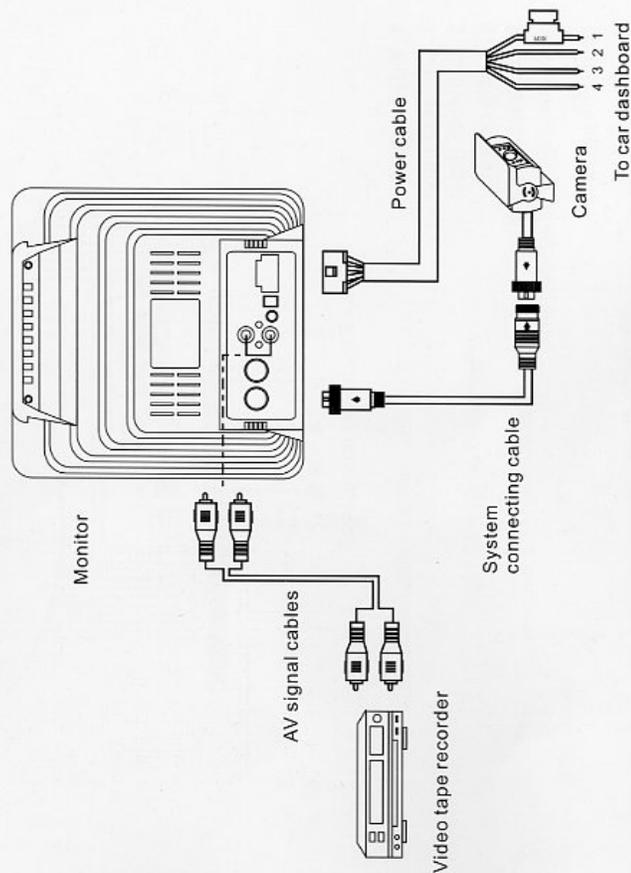

Fig.4 System connection
6. See Fig.4, Connect one end of the power cable(wire) to the right position on the dashboard
8. See Fig.4, connect the monitor and the camera with the system connecting cable.